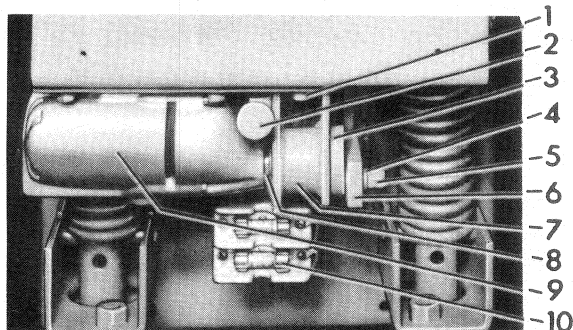

FIGURE 19 (8034471) DRIVING ELEMENTS
Refer to Figure 19. On breakers with "C" suffix, a set of protecting fuses (10) is mounted on the front of the breaker. These fuses are the primary protective devices for the closing control circuit on those breakers that are used in metal-clad units designed for solenoid operated breakers.